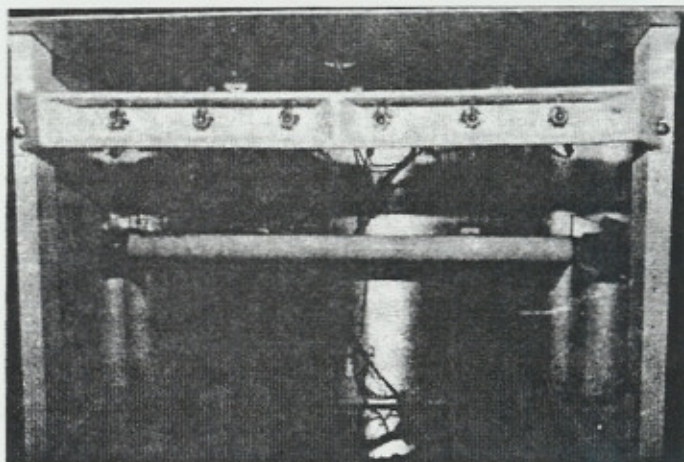

Figure 4-9
- 3) Twist the incandescent bulb 1/8 turn counterclockwise to remove it from the socket in plastic barrier. Gently twist the fluorescent bulb from its sockets. See Figure 4-9.